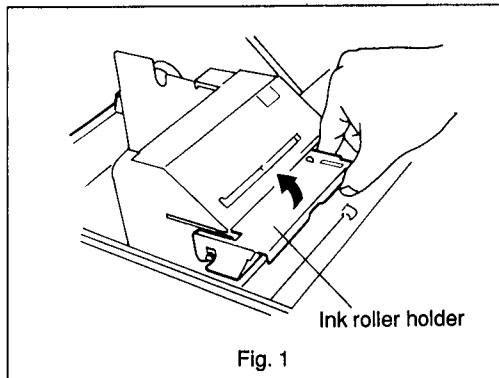

Fig. 1
2. Lift up the ink roller holder in the direction of the arrow to remove. (Fig. 1)
2. Take out the logo stamp in the direction of the arrow. (Fig. 1)